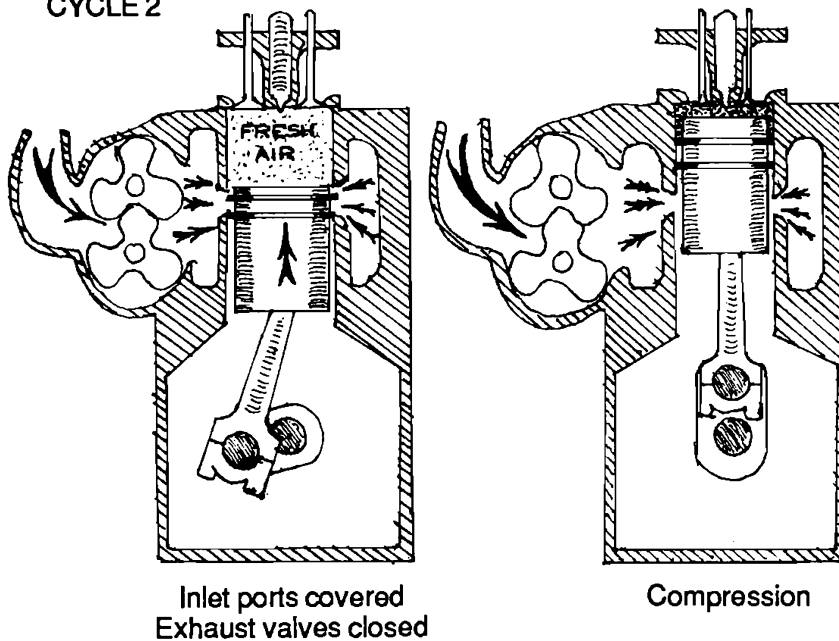

Figure 1-7. *Operation of a 2-cycle engine.*
1. Begin with the power stroke. The piston is at the top of its cylinder, which is full of hot compressed air. The fuel is injected, and ignites. The rising temperature and pressure drive the piston back down the cylinder (see Figure 1-7).